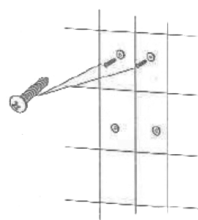
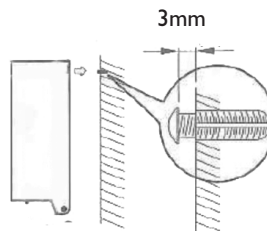

Fig. 2
Fig. 3
- › Insert 2 screws (use suitable screws for the installation) into the top wall plugs, leaving 3mm gap between the wall and screw head, for hanging dispenser (fig.2 & fig.3)